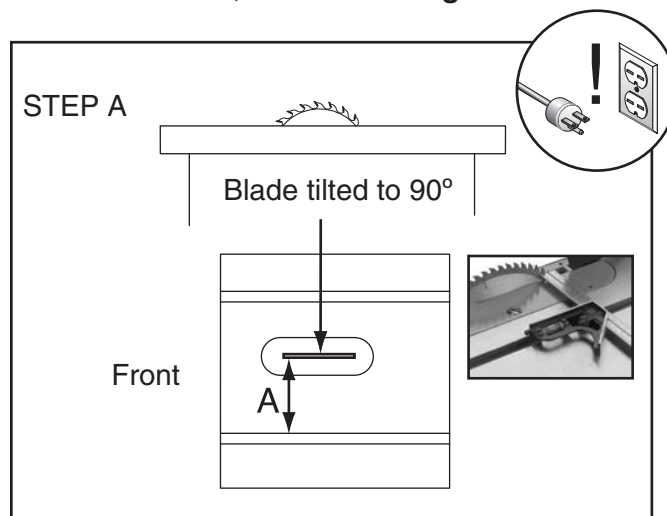

Figure 105. Measuring distance from miter slot to carbide tip of blade.
3. Measure from the miter slot to a carbide tip on the blade, as shown in **Figure 105**.